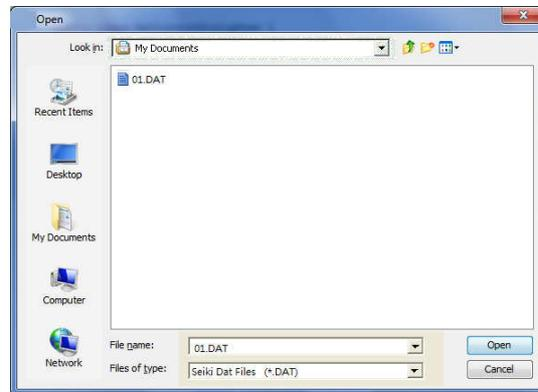

Figure 6-13C Select DAT file dialog box
1) Click: **Browse...** pop-up dialog box (see Figure 6-13C), select the file which needs to be converted to BMP.